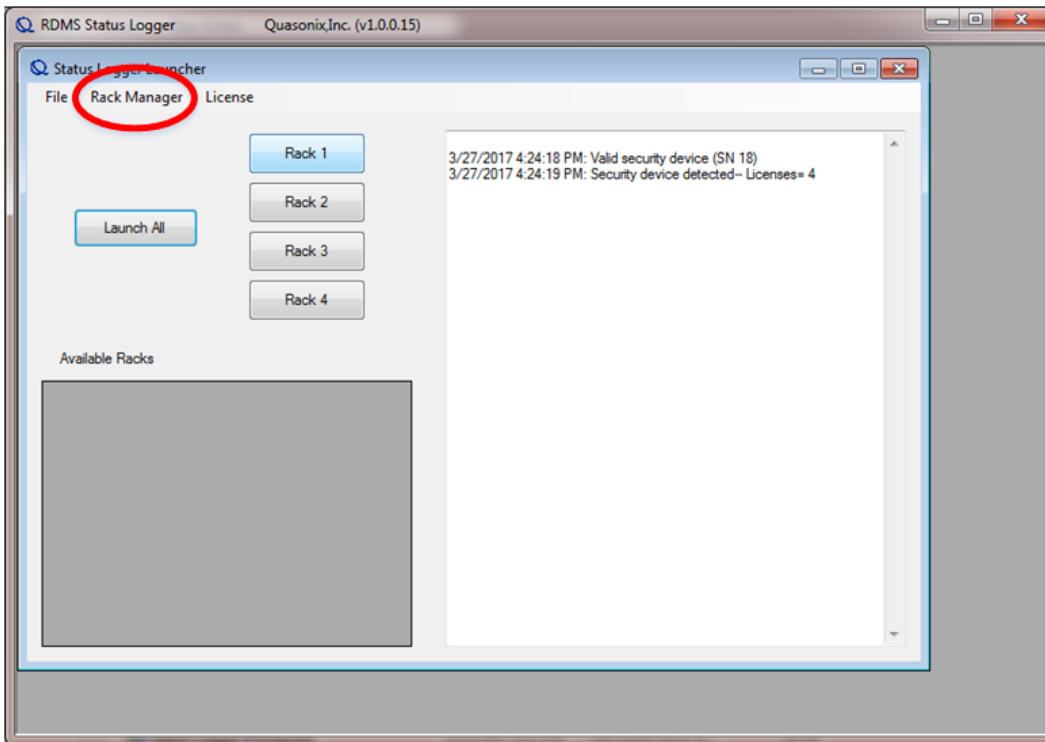

Figure 4: Status Logger Launcher, Rack Manager Menu
1. On the Status Logger Launcher screen, select the Rack Manager menu, as shown in Figure 4, then the Rack Management option.